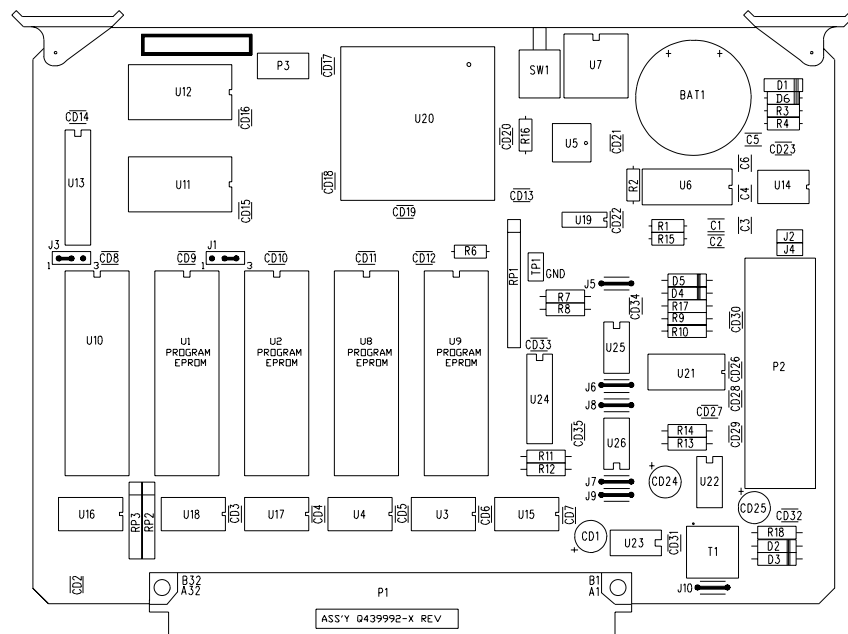

Figure 16 - Q439992 MPU Board
- The ATG system must have a (P/N Q439992) MPU board installed with a serial communication cable (P/N 439513). Refer to Figure 16 and Figure 17 to identify the correct parts. If these are not part of the system it will be necessary to order an upgrade kit (P/N 451337) for the ATG system before proceeding.